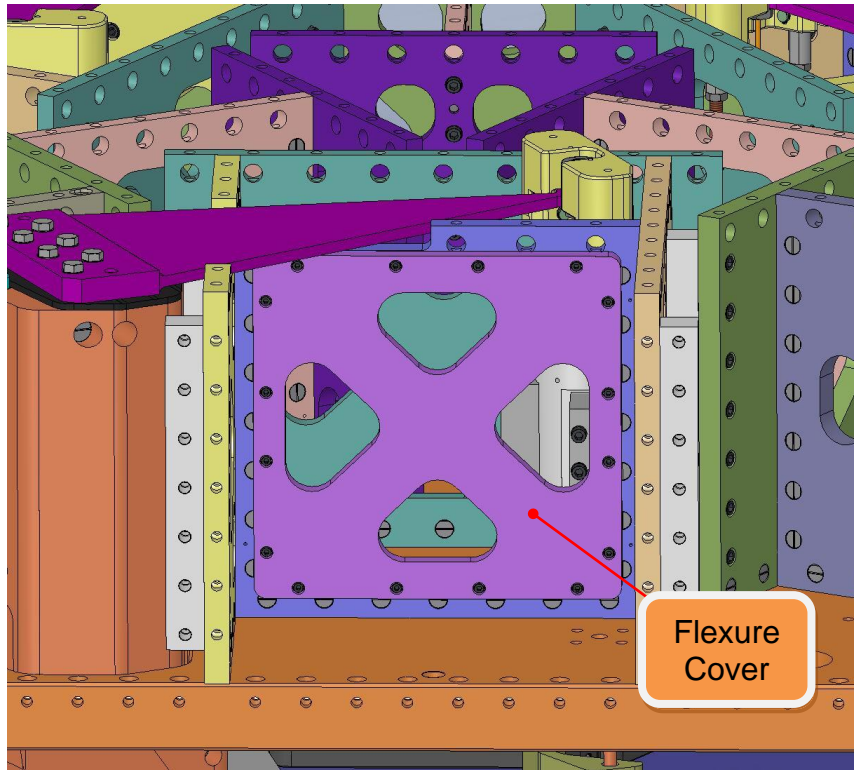

Figure 4.108. Orientation of Flexure Mid Cover is not important.
- Bolt (3) **Rib, Tan, Flexure Mid Covers** (D071072) to **Rib, Tan, Flexure Mid plates** (D071071), as shown in Figure 4.108. For each **Cover**, first snug all screws, then torque to final spec.